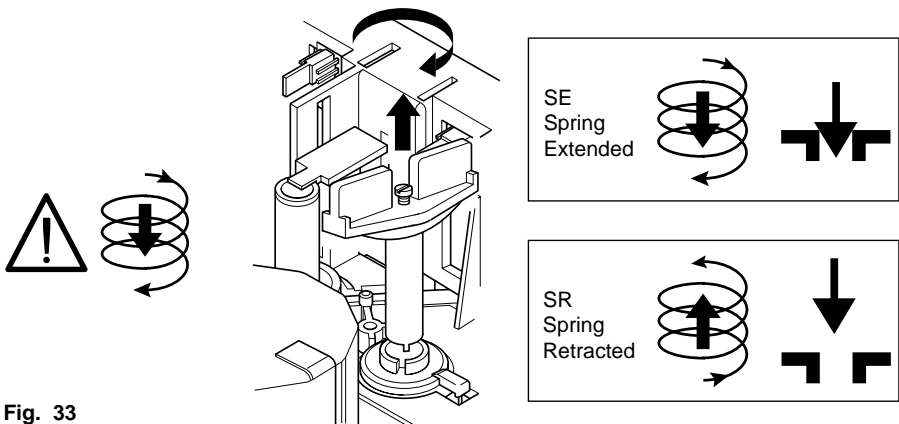

Fig. 33
The spring handle will recoil clockwise with spring extend (SE) actuators or anticlockwise for spring retract (SR) actuators (see Fig. 33).